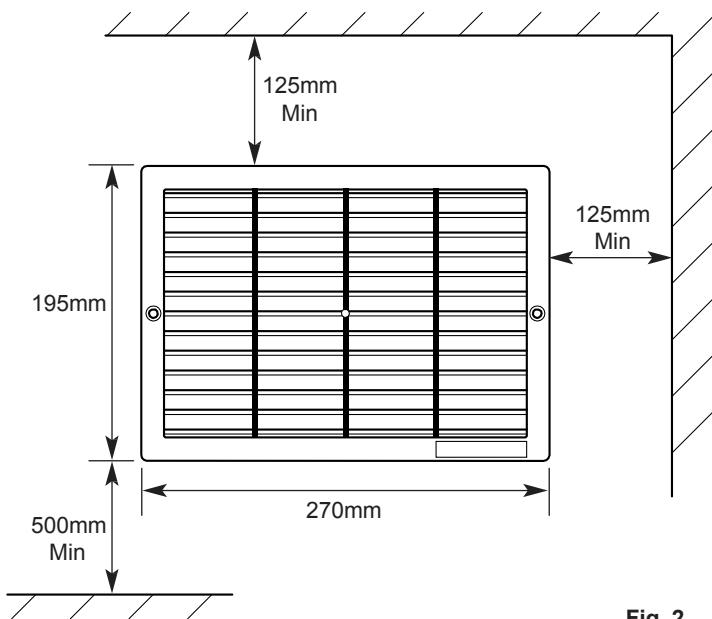

Fig. 2
9. The internal grille surround must be sited a minimum of 125mm away from any wall or projecting surface (Fig. 2).